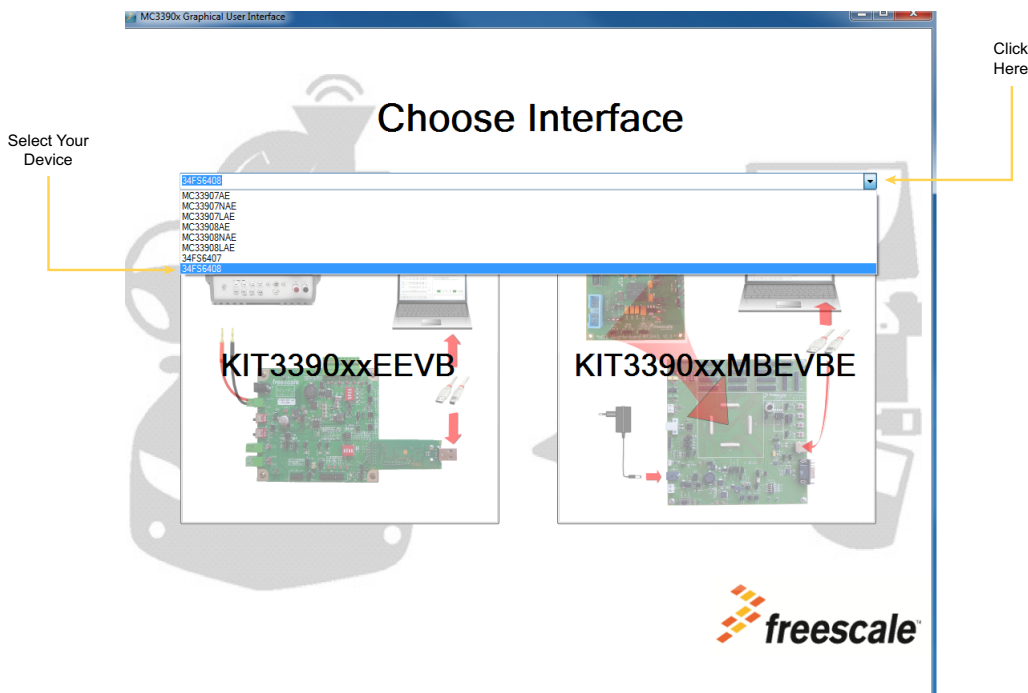

Figure 12. MC3390X_GUI Device Selection
2. When the MC3390X_GUI launches, click on the dropdown box under “Choose Interface” and select the appropriate device. (See Figure 12.)